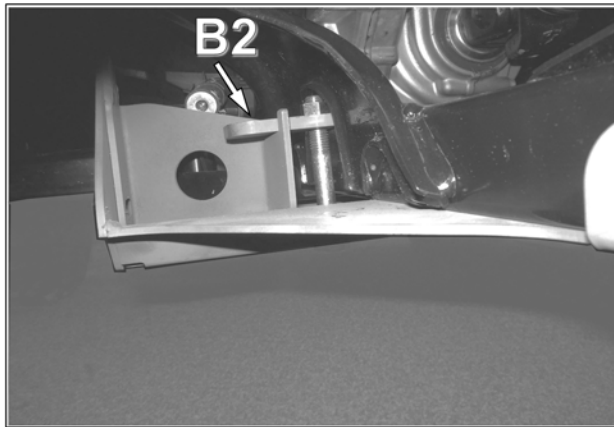

Fig. 5
4. Position the anchor bracket cover (**B2**) in the opening over the chassis tubing. See Fig. 5